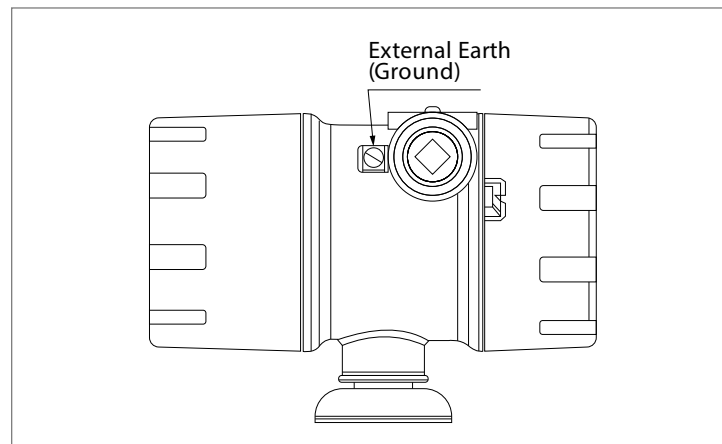

Fig 14: Grounding Connection
- Use copper stranded 12 AWG minimum wire for grounding, as shown in figure 14.